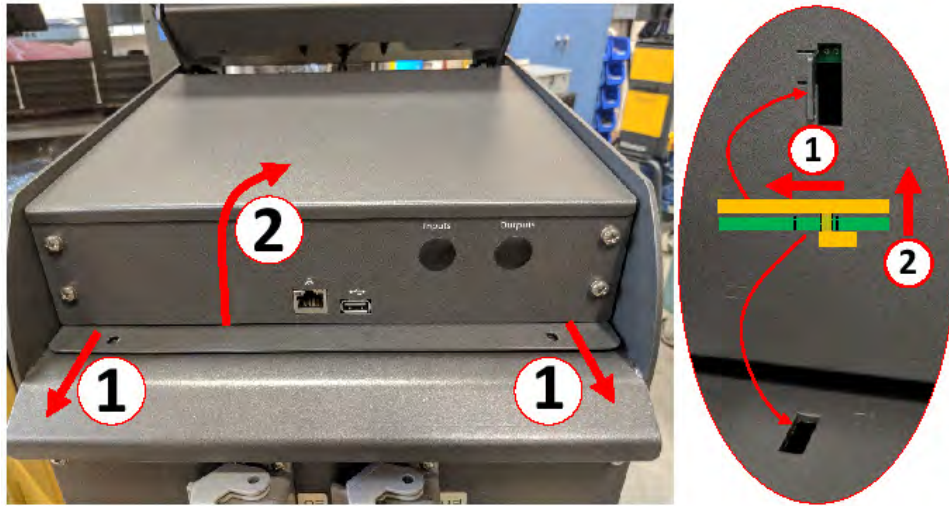

Figure 16-27 Disengage Hooks
- Put your hand on the front of the MCU and push it backwards to disengage the hidden hooks that hold it in place on top of the mainframe (refer to Figure 16-27).